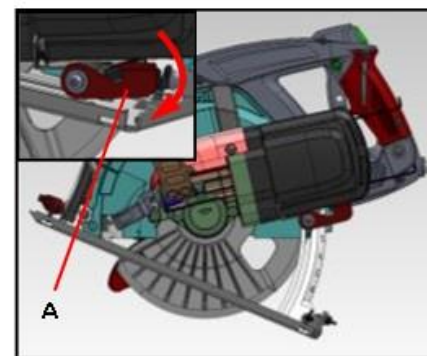

Fig.16
3. Securely re-tighten the lock lever (A) after the depth adjustment is made. **Fig. 16.**